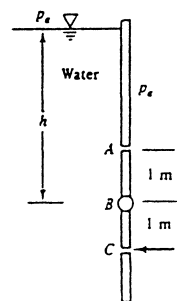

Fig. P2.77
**Solution:** Referring to Fig. P2.77, the force  $F$  and its line of action are given by